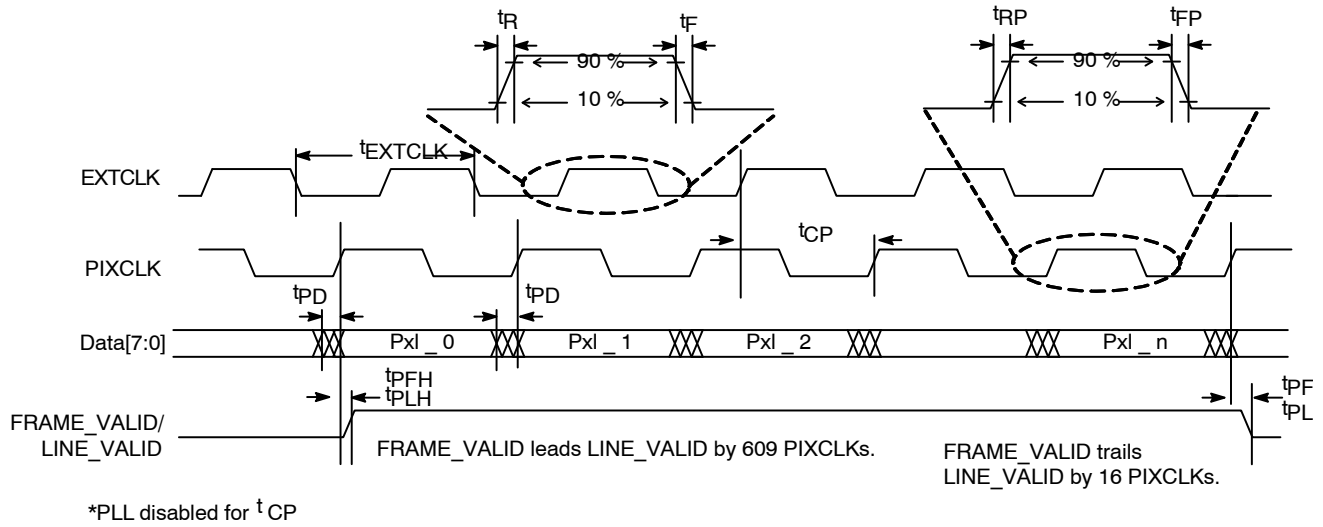

Figure 29. I/O Timing Diagram
See Figure 29 and Table 18 for I/O timing (AC) characteristics.